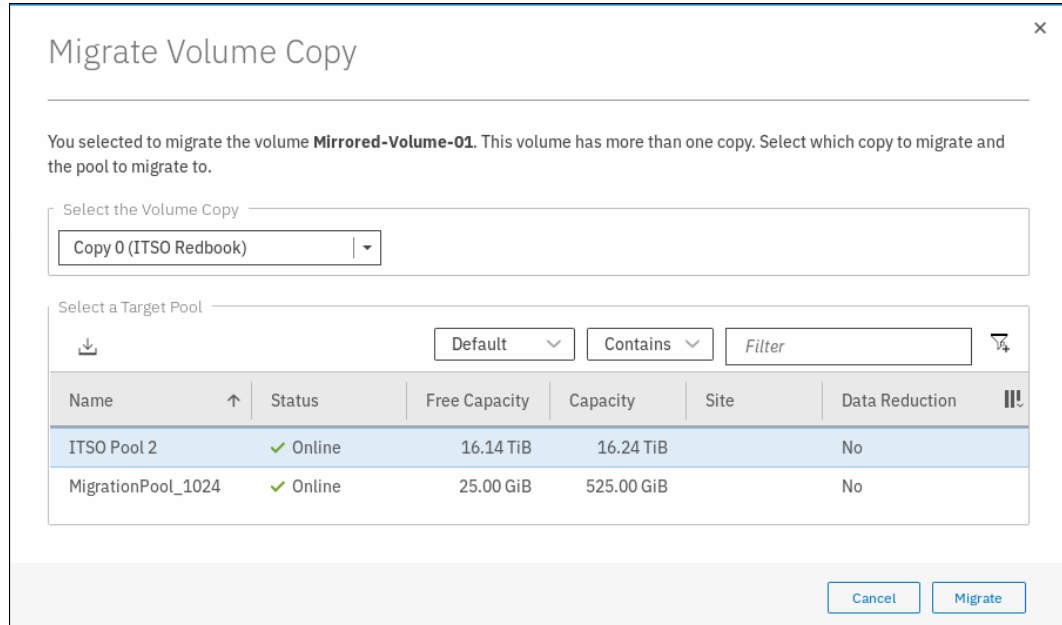

Figure 6-46 Selecting the new pool for volume migration
- Select the new target storage pool, as shown in Figure 6-46.